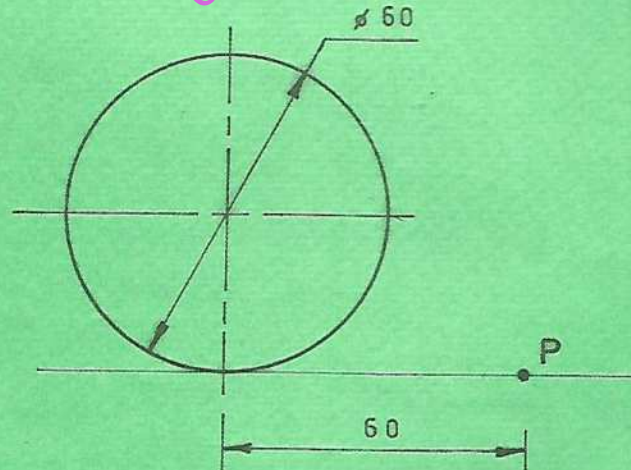

Fig. 8
8. Figure 8 shows a circle of diameter 60 mm with point P placed 60 mm outside the circle.